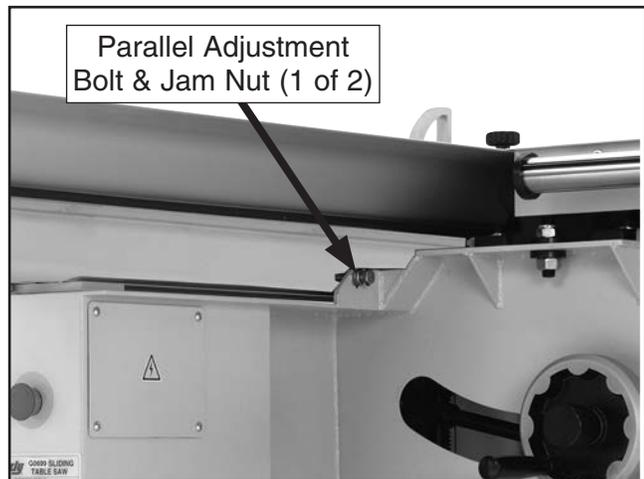

Figure 23. Sliding table parallel adjustment bolt (1 of 2).
- Loosen the jam nuts on the sliding table parallel bolts (see **Figure 23**) that are on both sides of the cabinet behind the sliding table, then adjust the bolts in or out in small increments to change the sliding table parallelism to the saw blade.